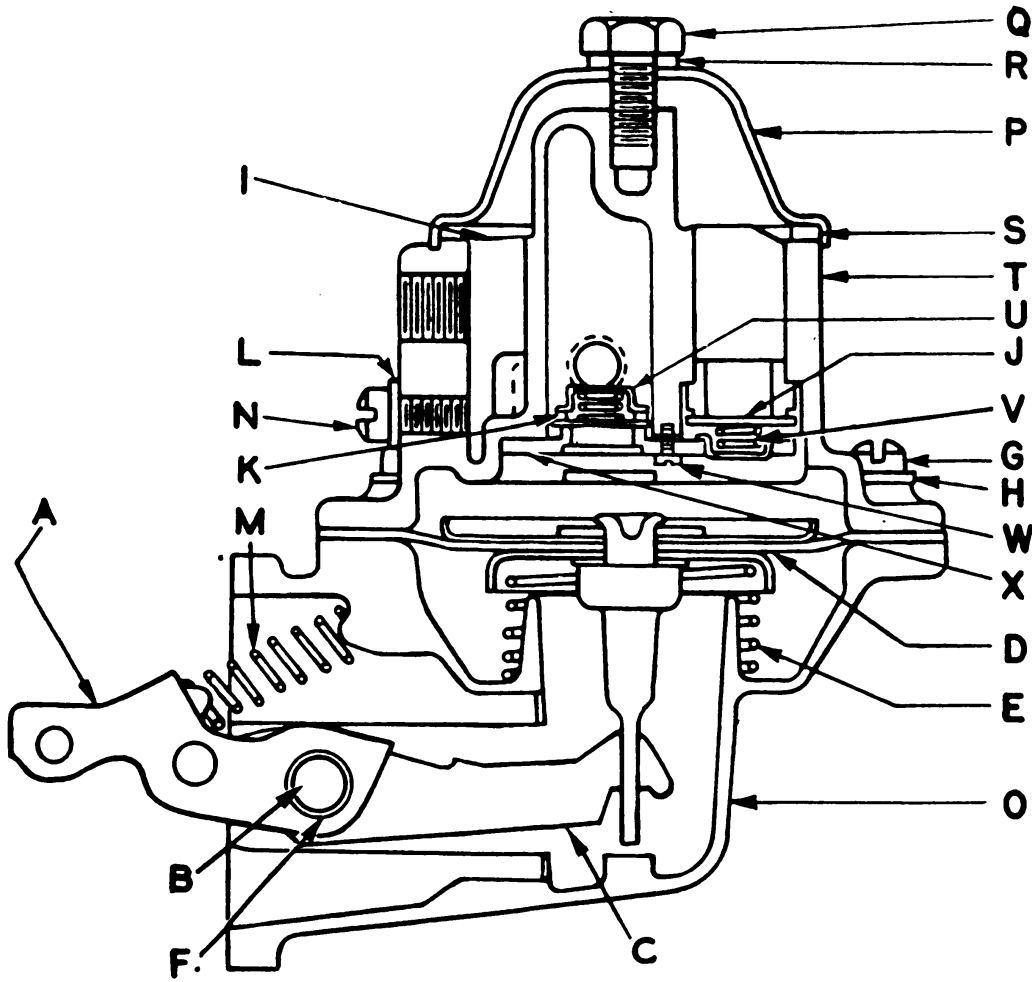

FIGURE 8—FUEL PUMP—CROSS SECTION
- (1) Repairs made without disturbing pump installation.
- (2) Repairs which necessitate removal and disassembly of fuel pump. (Refer to Figure 8.)
d. Procedure in assembling (Figure 8).